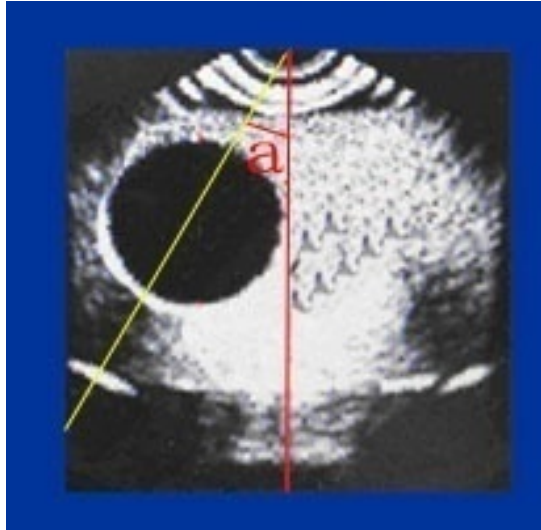

Figure A-5 $\angle a$
A. 3.1 When the image looks like fig. A-2, the value of probe calibration in the system setting shall be negative. The value is calculated by the degree value of $\angle a$, as fig. A-5 ($\angle a$ equals the center of the image between the red line' degree)